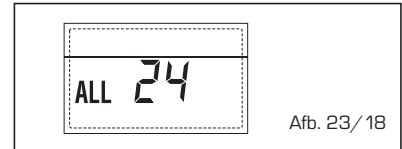

Afb. 23/17
- STORING SONDE SOLARCOLLECTOR (S1) "ALL 24" (Afb. 23/18)